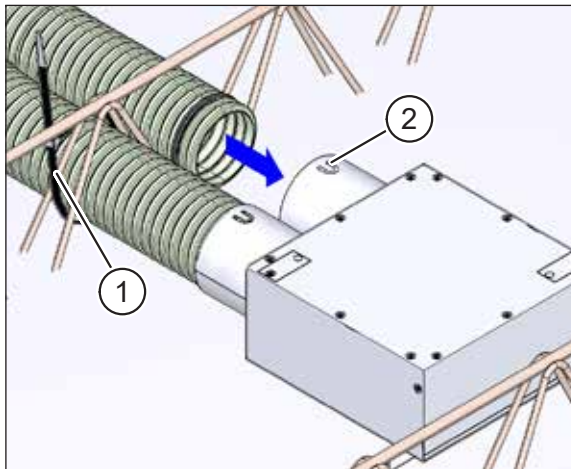
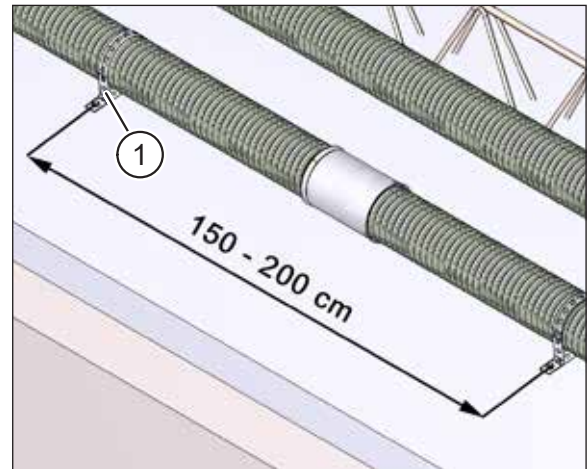

Fig. 10: Fixing flexible pipes with cable ties
Fig. 11: Recommended distance between fixing points
- ▶ Before pouring the concrete, fix the flexible pipes in position with suitable fixings, e.g. cable ties (item 1 in Fig. 10) or perforated tapes (item 1 in Fig. 11) to prevent the flexible pipes floating up. The distance between two fixing points should be 150 to 200 cm.
- ▶ Press the retaining tabs (item 2 in Fig. 10) on components such as ceiling boxes, crosspieces or 90° flexible pipe bends into the indentations in the flexible pipes to fix them securely.